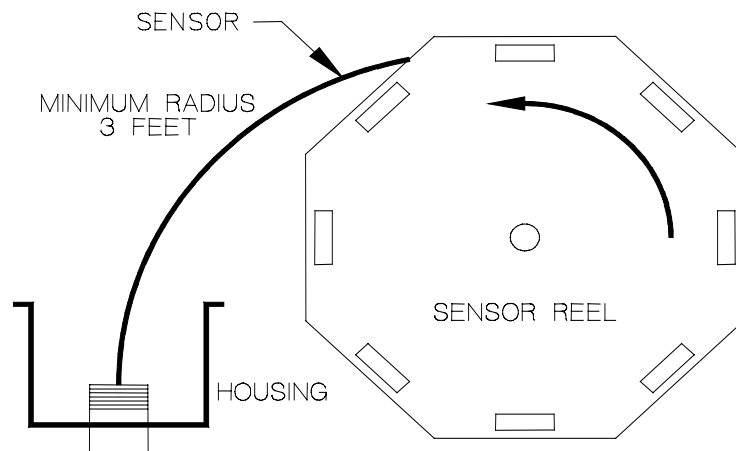

Figure 5 Sensor Installation
- \* Have two (2) people available for sensor installation.
- \* Remove packing as you dispense sensor directly from reel into still pipe, as in Figure 5, without bending, twisting or scraping sensor against sharp edges or surfaces.